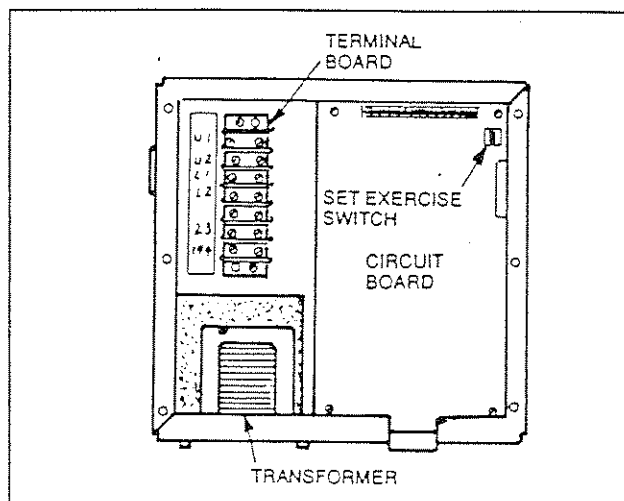

Figure 22. The "Set Exercise" Switch
5. On the CMA circuit board, locate the small switch identified by the words "Set Exercise" (Figure 22).